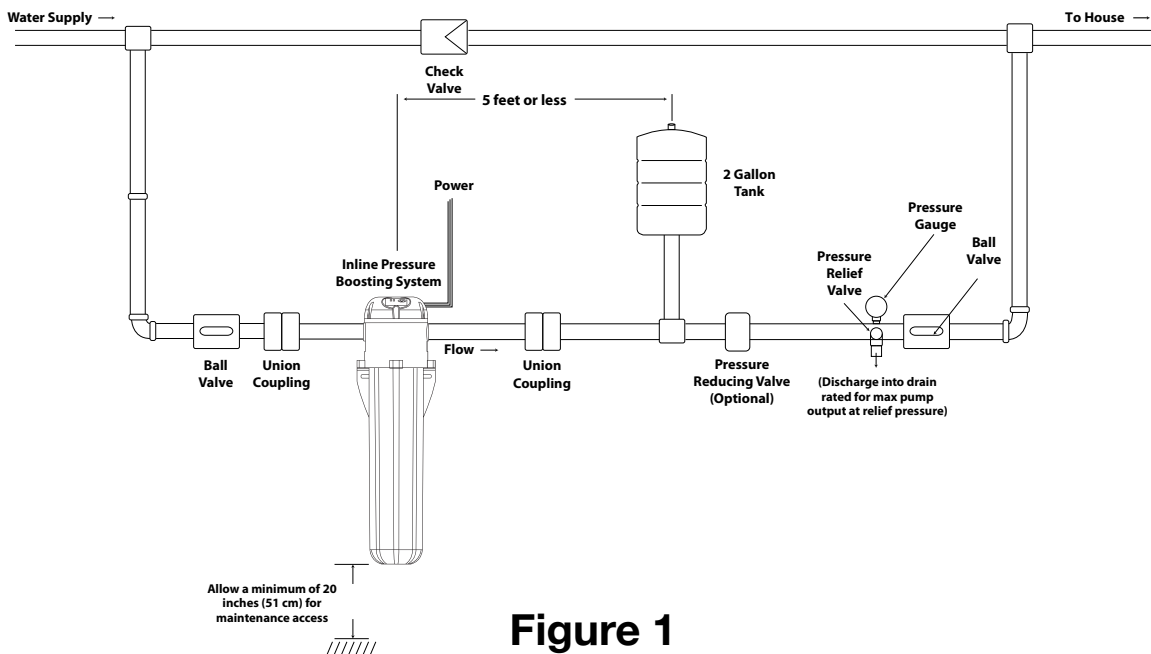

Figure 1
The Inline Pressure Boosting System is designed to increase a system's usable pressure whenever water is in use. See **Figure 1** for a graphical representation of what a typical installation may look like.
4. Install inlet and outlet plumbing and pressure tank as shown in **Figure 1**. The inlet and outlet of the unit is marked with "inlet" and "outlet" respectively. Unions on the suction and discharge ends of the pump should be used. Internal check valves are provided on both the suction and the discharge ends of the pump. These valves can help in preventing backflow. If the optional bypass loop is used, a check valve should also be installed before the bypass. Be sure to check all local plumbing codes to ensure that all requirements pertaining to backflow prevention are met.